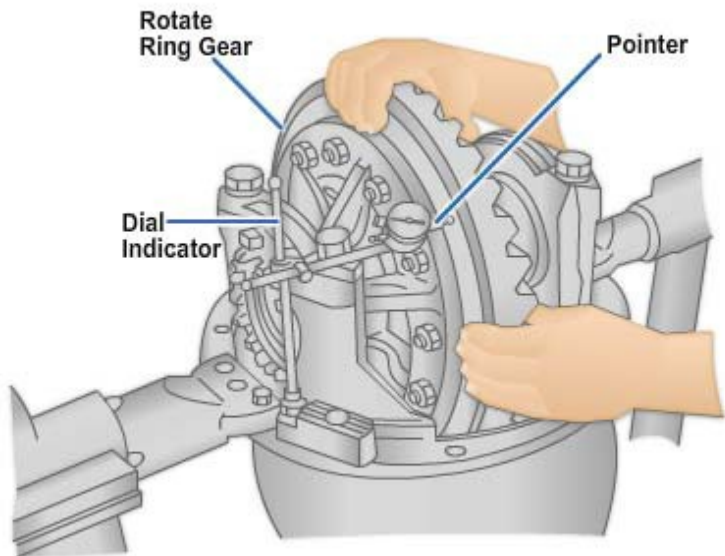

Figure 8-92 - Checking crown gear runout.
1. Attach a dial indicator on the mounting flange of the differential carrier (*Figure 8-92*).